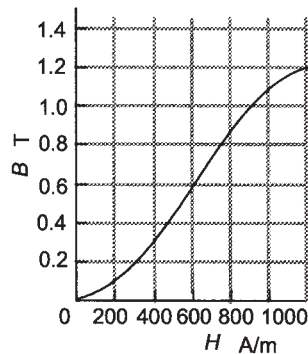

Figure 15.22 *Problem 8*
- 9 A cast steel magnetic circuit (magnetisation curve Figure 15.22) has a uniform cross-section with area $1.5 \times 10^{-5} \text{ m}^2$ and a magnetic flux path length of 0.5 m. What current is required in a 200 turn coil wrapped round the core to give a core magnetic flux of $12 \mu\text{Wb}$?